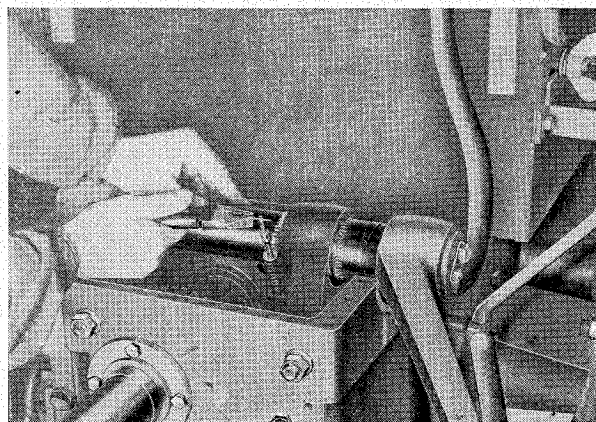

Fig. 62.
4. After having pulled out the cotter pin from the link pin screw out the two nuts M 6, pull off the spring cup, the spring and the opposite spring cup (see Fig. 62).